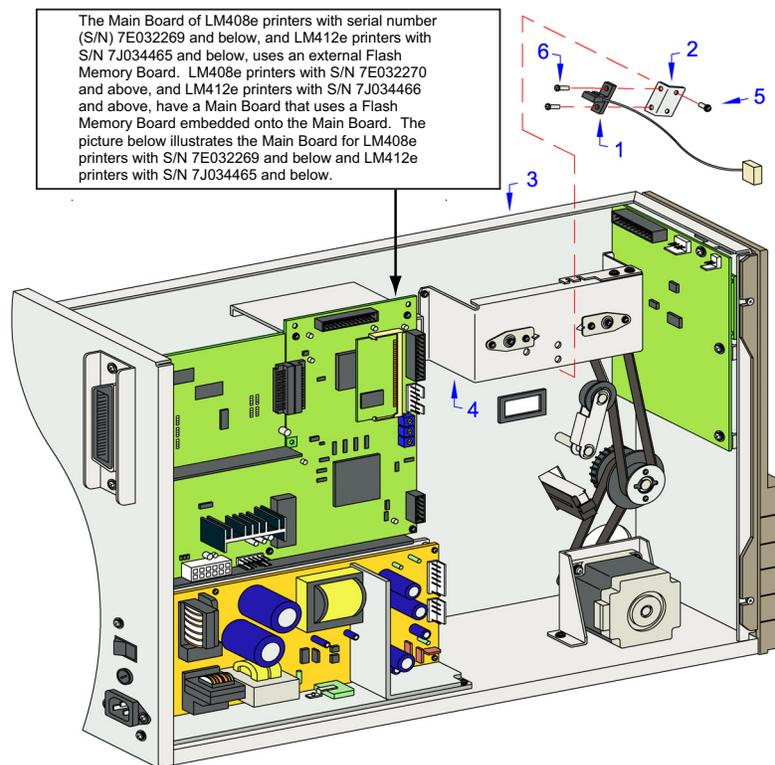

Figure 7-14, Ribbon Sensor Replacement
3. Locate sensor (1, Figure 7-14) and sensor bracket (2) secured to the printer's center frame (3) beneath ribbon spindle bracket (4).
4. Remove screw (5) securing sensor bracket (2) to center frame (3). Lift away bracket (2) with sensor (1).
5. Disconnect the wiring harness of defective sensor (1) and discard the set.
6. Remove two screws (6) securing defective sensor (1) to bracket (2), secure replacement sensor (1) instead.
7. Secure sensor bracket (2) to center frame (3) using screw (5) and connect wiring harness.